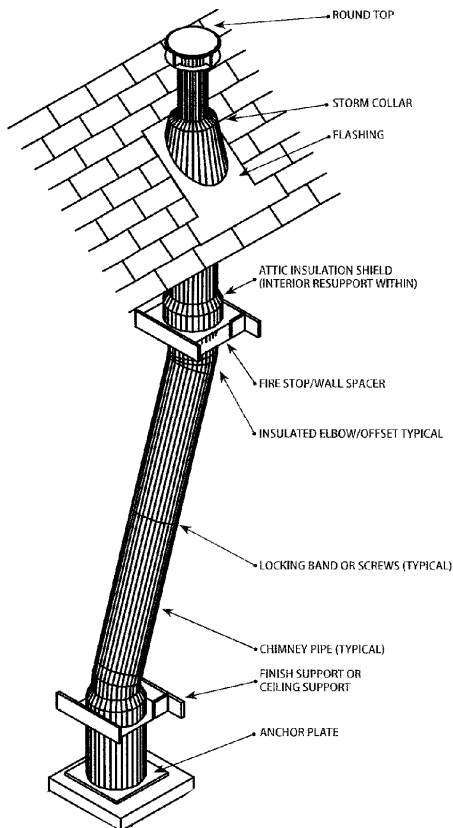

Figure 26. Metal Chimney Construction
B. Complete chimney installation as shown in Figure 26. As the chimney extends through the attic to the roof, attach securing straps to rafters and joists as required to provide stability.